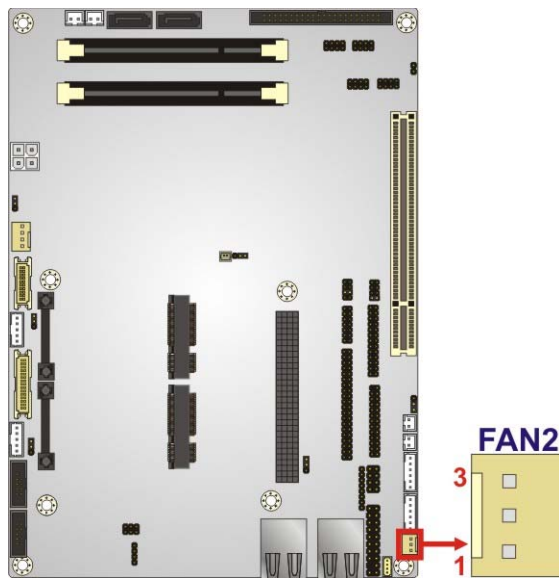

Figure 3-10: +12V Fan Connector Locations
- CN Location:** See **Figure 3-10**